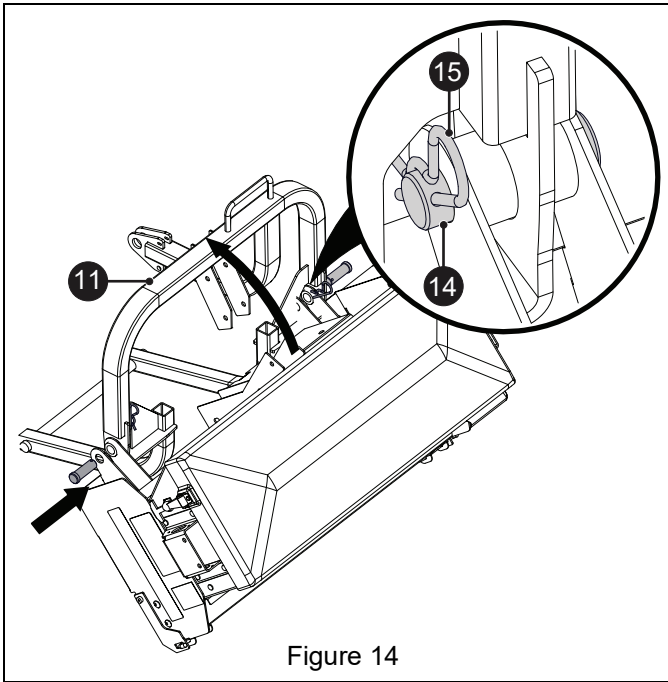

Figure 14
1. Position salt spreader assembly on main mount assembly (item 11) and retain with two pivot bushings (item 14) and two cotter hair pins (item 15). See Figure 14.